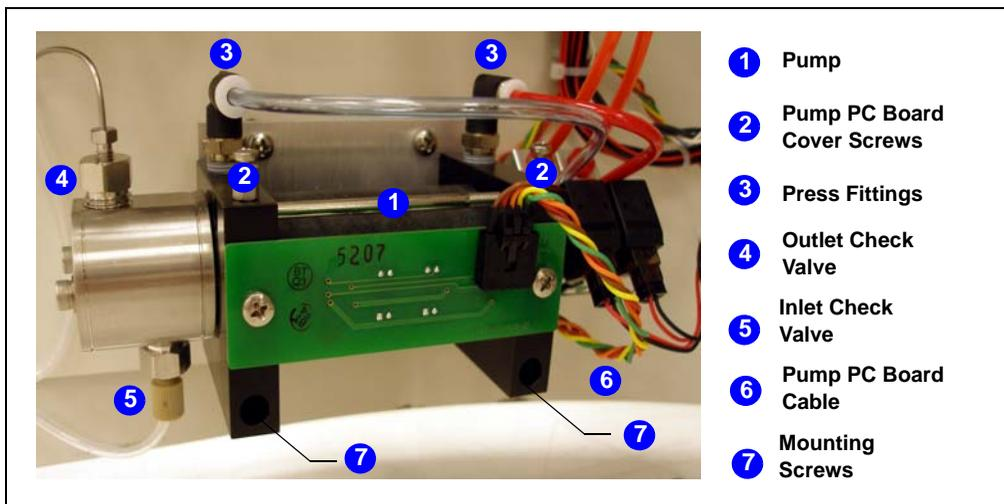

Figure 5-5. Dionex ASE 350 Pump (Shown with PC board cover removed)
4. The pump is installed near the bottom of the component mounting panel on the inside of the door (see Figure 5-5, **1**).